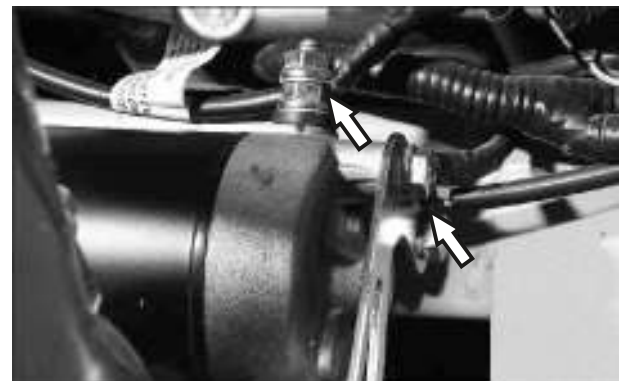

Fig. 3.6
- Loosen and disconnect the positive (Red) cable and negative (Black) cables (2nos.) from starter motor.(Fig. 3.6)